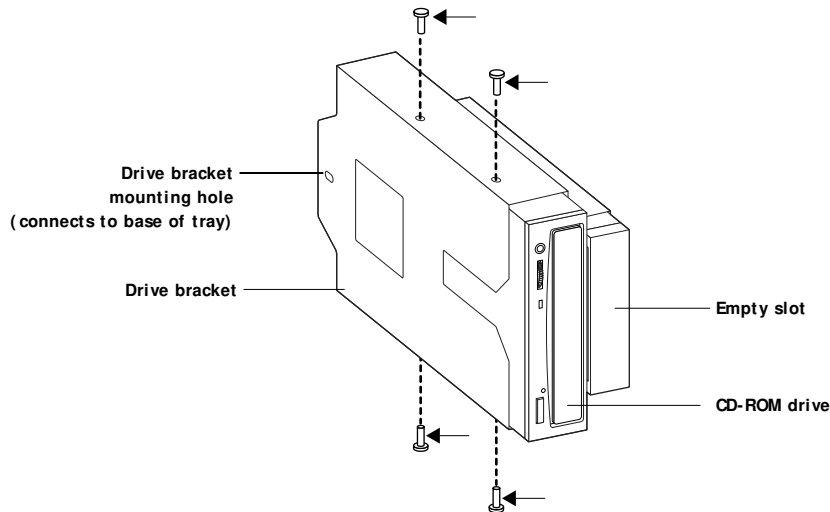

FIGURE 4-32 CD-ROM drive bracket
2. Attach the four screws that secure the CD-ROM drive to the bracket (see Figure 4-32).